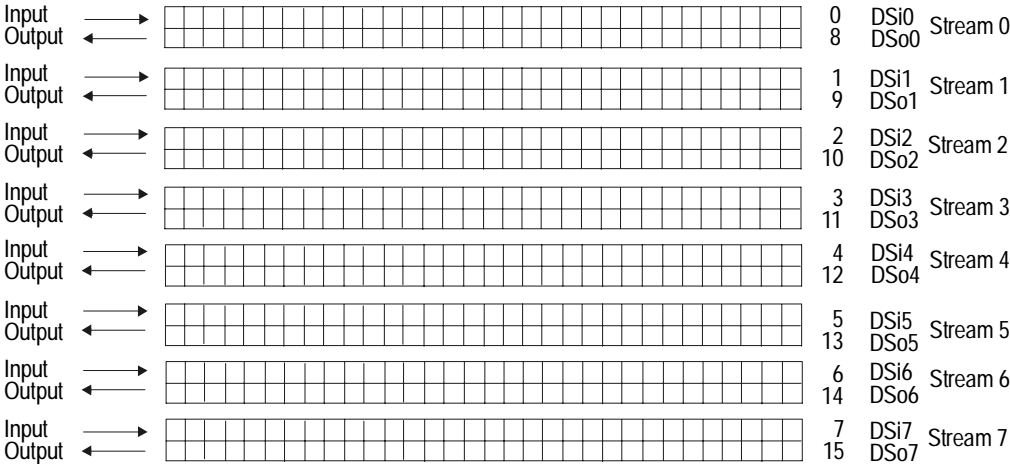

Figure 25. Data Stream Numbering
Of the 16 data streams, the first eight are input and the second eight are output. Together, the first input (0) and first output (8) streams form the bidirectional stream 0, as shown in Figure 25. The second input (1) and second output (9) form the bidirectional stream 1, and so on through the eighth input (7) and eighth output (15), which form the bidirectional stream 7. Although the driver uses 16 streams, the application only sees the eight bidirectional streams.
Input and output streams are designated as DS_i and DS_o where DS stands for data stream; i stands for in; o stands for out; and x stands for the number of the bidirectional stream, 0 through 7. For example, an application would refer to the input and output streams that make up the seventh bidirectional stream as DS_i6 and DS_o6. The driver interprets these stream assignments as streams 6 and 14, as shown in Figure 25.